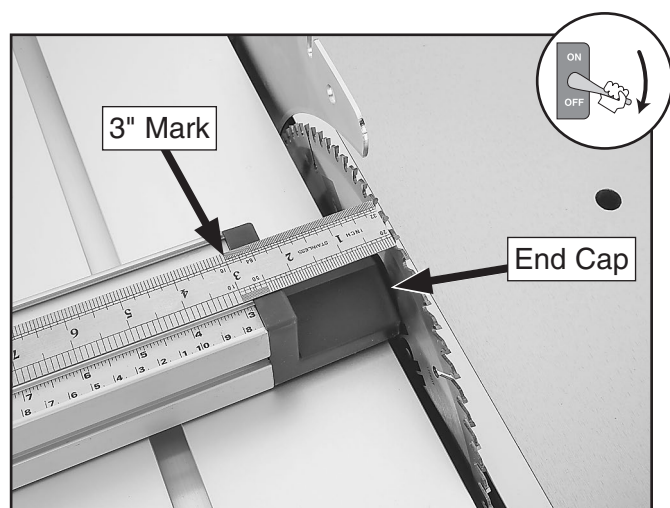

Figure 96. End cap aligned with blade.
3. Move crosscut table (see **Positioning Crosscut Table Along Sliding Table** on this page) so fence end cap is aligned with center of blade body (see **Figure 96**).
4. Place precision ruler against a blade tooth, as shown in **Figure 96**, then adjust fence so that 3" mark on fence scale is exactly 3" from blade tooth.